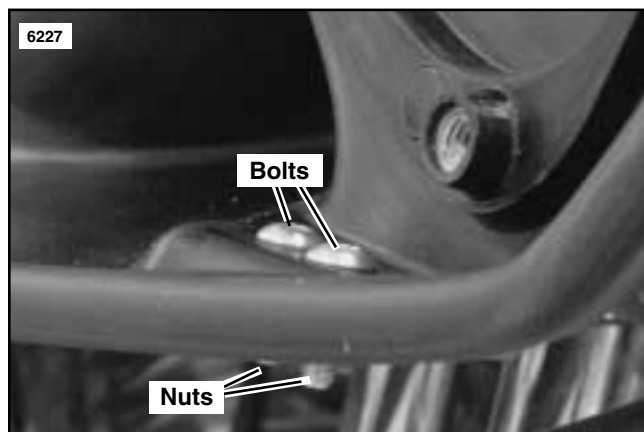

Figure 8. M2 or S3 Stock Air Cleaner Front Mount
- a. See Figure 8. Remove nuts and bolts from front mount.